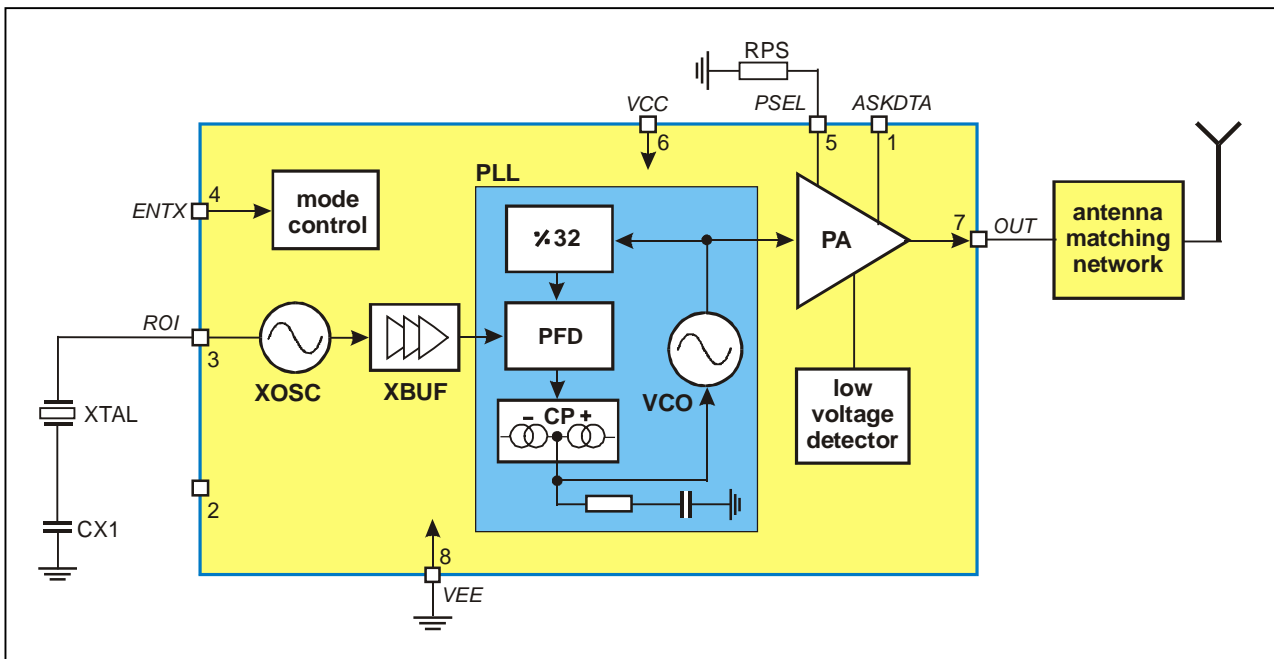

Fig. 1: Block diagram with external components
As depicted in Fig.1, the TH72032 transmitter consists of a fully integrated voltage-controlled oscillator (VCO), a divide-by-32 divider (div32), a phase-frequency detector (PFD) and a charge pump (CP). An internal loop filter determines the dynamic behavior of the PLL and suppresses reference spurious signals. A Colpitts crystal oscillator (XOSC) is used as the reference oscillator of a phase-locked loop (PLL) synthesizer. The VCO's output signal feeds the power amplifier (PA). The RF signal power P_{out} can be adjusted in four steps from $P_{out} = -11$ dBm to $+9$ dBm, either by changing the value of resistor RPS or by varying the voltage V_{PS} at pin PSEL. The open-collector output (OUT) can be used either to directly drive a loop antenna or to be matched to a 50Ohm load. Bandgap biasing ensures stable operation of the IC at a power supply range of 1.95 V to 5.5 V.